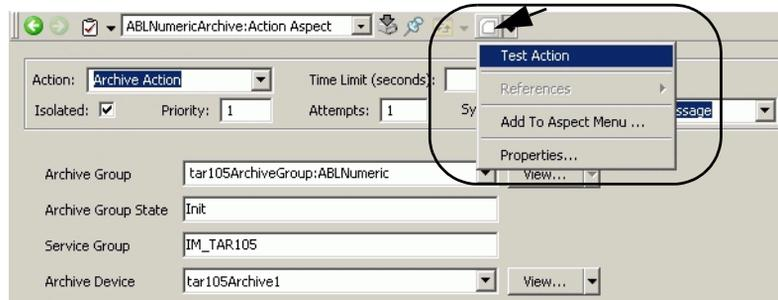

Figure 104. Test Action Function on the Action Aspect
- **Using the Test Action on the Action Aspect** (Figure 104) - This runs the report via the interactive or workplace user, instead of the Scheduler. This will help you determine whether or not the scheduler is having problems. If you see dialogs asking for userid/password or data source, this indicates the report will